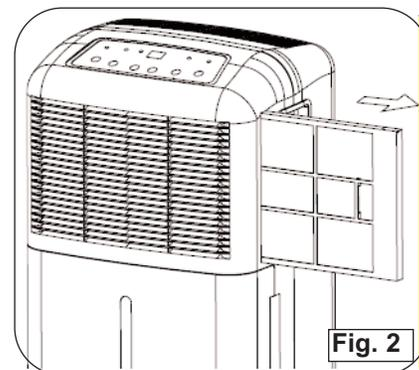

Fig. 2
**1)** Grasp the filter handle, and pull the filter out. The filter will slide out easily (see Fig. 2)